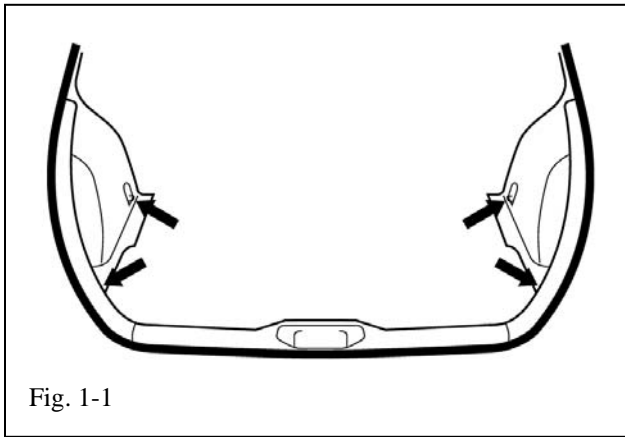

Fig. 1-1
- (a) Locate the four anchor points in the vehicle as shown (Fig 1-1).
- (b) Lay out the net so the zipper is on top and at the rear of the vehicle. Starting on the driver's side of the vehicle, attach the hook at the front of the net to the D-ring as shown (Fig 1-1).